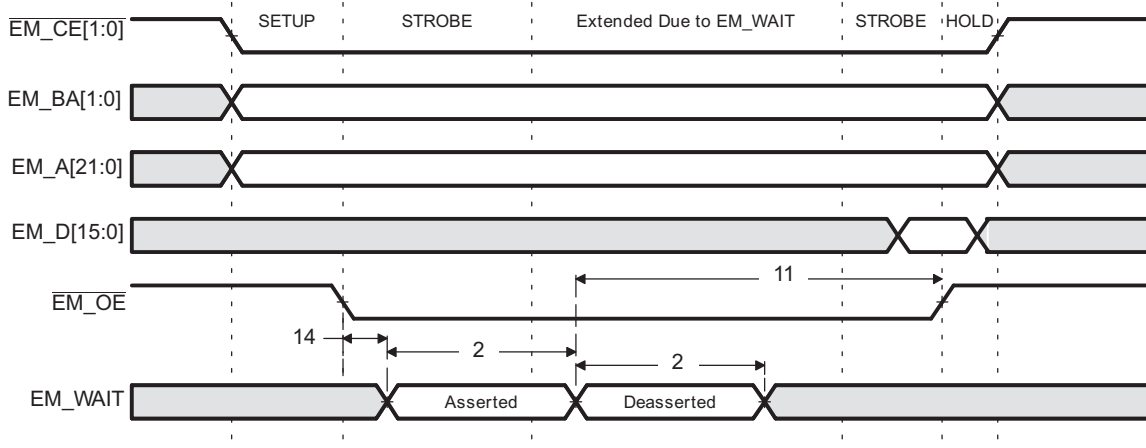
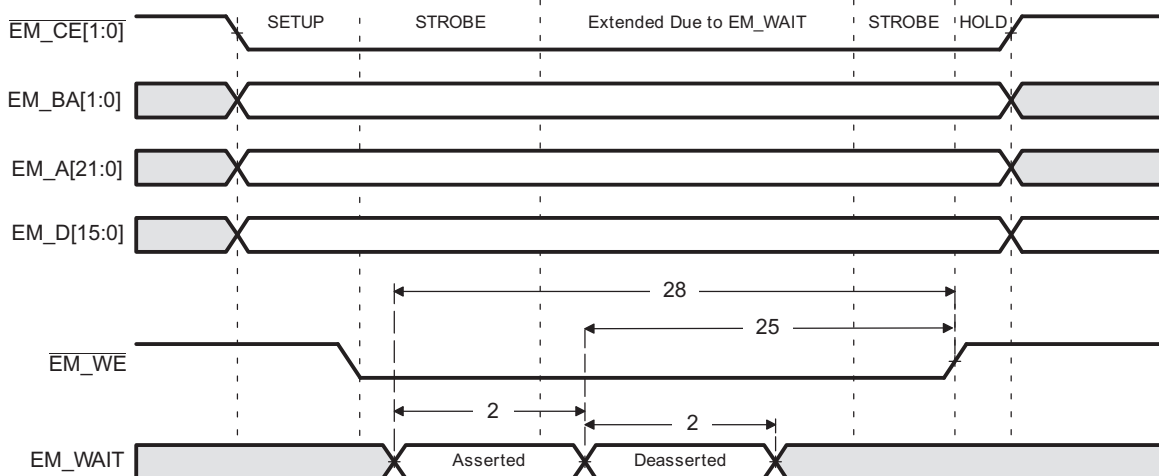

Figure 7-15. EM_WAIT Read Timing Requirements
Figure 7-16. EM_WAIT Write Timing Requirements
- (1) $E=2*PLL1C$ SYSCLK4 period in ns. See Section 4.3 for more information.
(2) Setup before end of STROBE phase (if no extended wait states are inserted) by which EM_WAIT must be asserted to add extended wait states. Figure 7-15 and Figure 7-16 describe EMIF transactions that include extended wait states inserted during the STROBE phase. However, cycles inserted as part of this extended wait period should not be counted; the 4E requirement is to the start of where the HOLD phase would begin if there were no extended wait cycles.